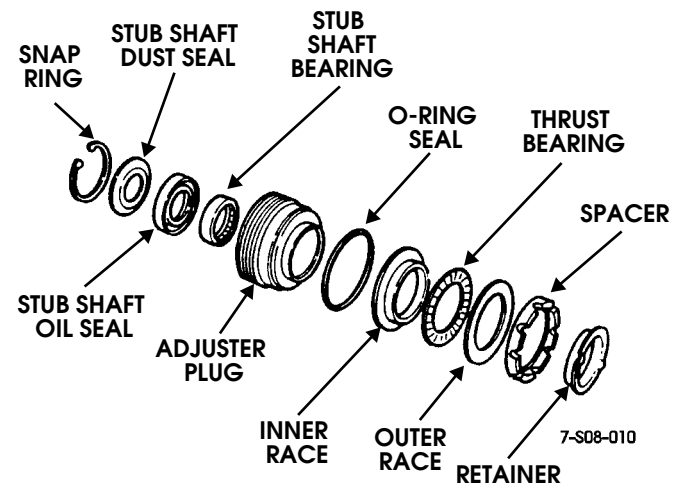

Figure 8-36: Adjuster Plug Components
4. Remove bearing spacer, thrust bearing and races, and O-ring (Figure 8-36).